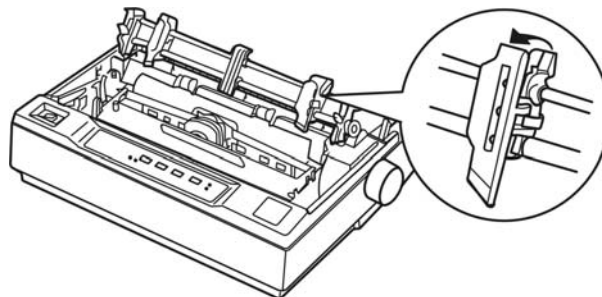

Figure 3-12 Release the sprocket units
3. Release the sprocket units by pulling the sprocket locks upward shown as figure 3-12.